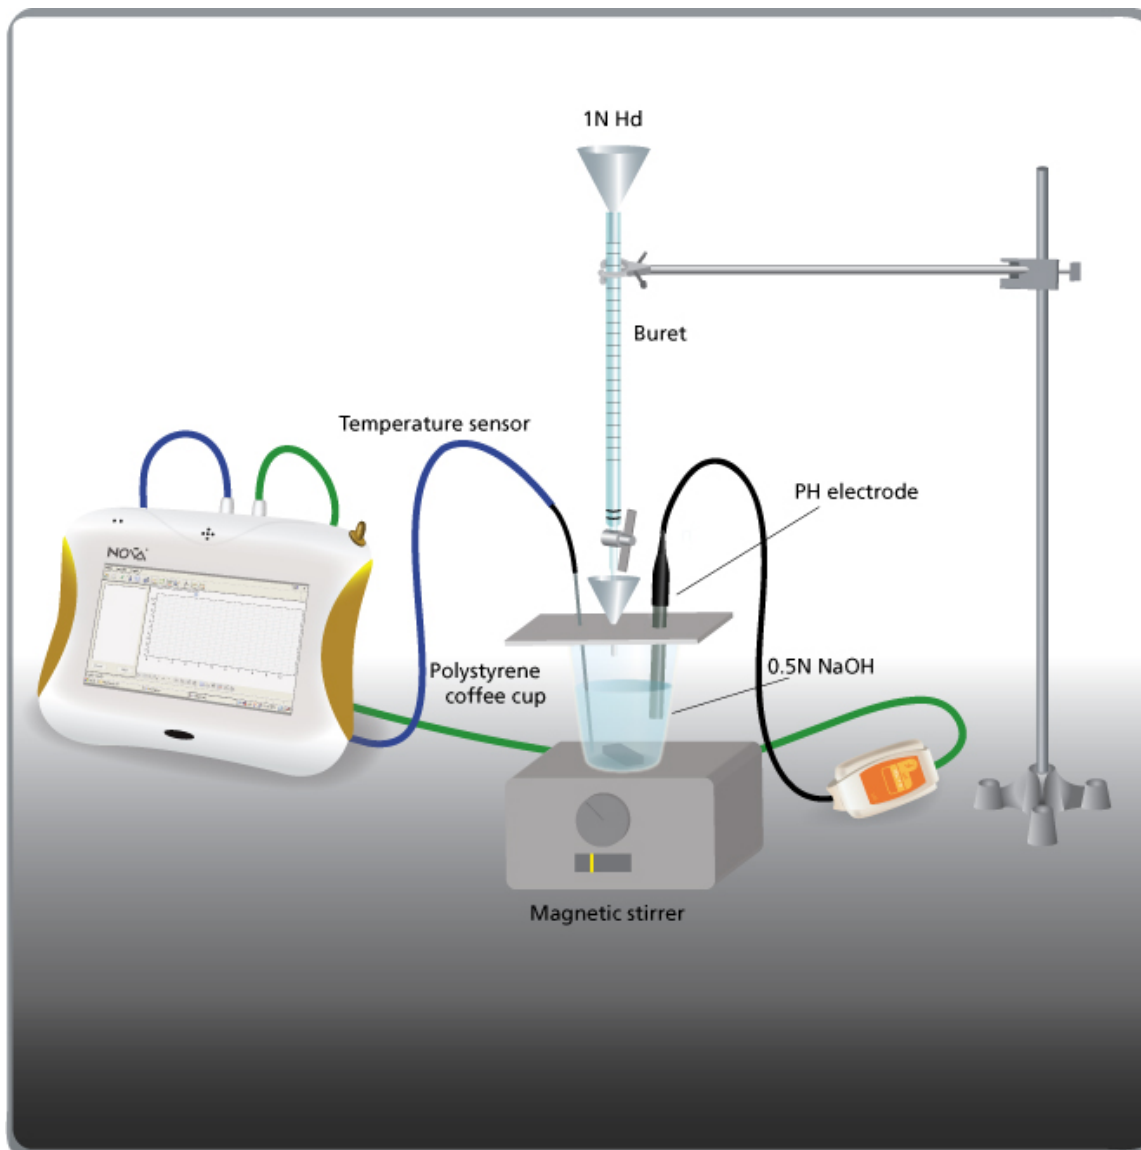

Figure 1
4. Assemble the equipment as illustrated in Figure 1.
1. Prepare a polystyrene cover for the polystyrene coffee cup. The cover should be flat and larger than the circumference of the coffee cup (see Figure 1).